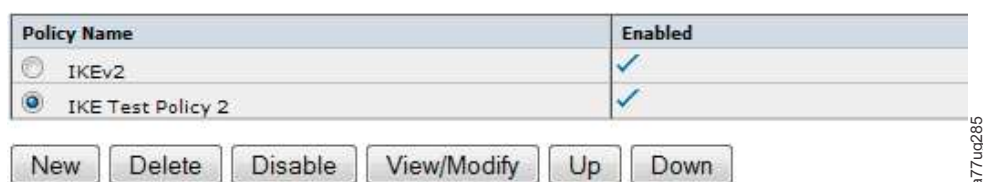

Figure 116. IPSec Policy editing
3. Figure 116 shows the IPSec maintenance main controls.